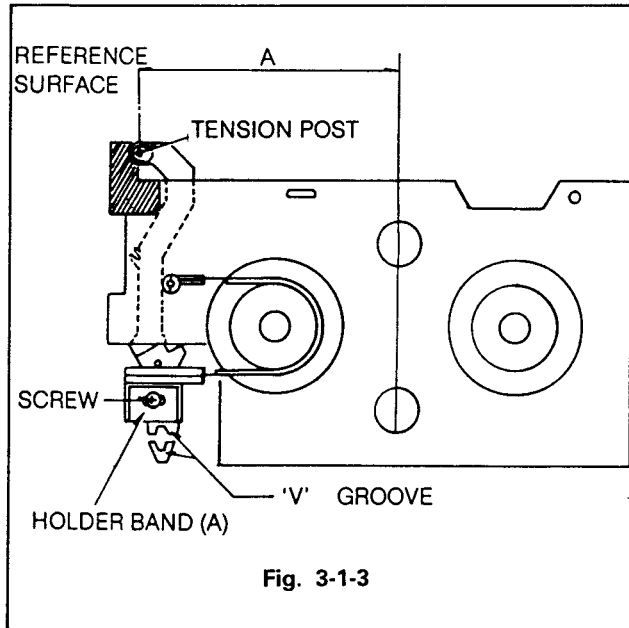

Fig. 3-1-3
- Loosen the screw a little (as shown in Fig. 3-1-3).
- Insert the (—) type driver between the Holder Band (A) and the "V" groove of the chassis.
- Move the Holder Band (A) right and left to enable the Tension Post to touch on the reference surface.